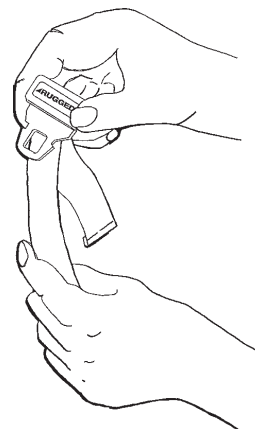

Figure 34 - Lengthening the Safety Restraint
- **To lengthen the restraint**, grasp the buckle tang, turn it at an angle to the webbing, then pull it out (see Figure 34). A hemmed tab at the end of the webbing prevents the tang from coming off of the strap.